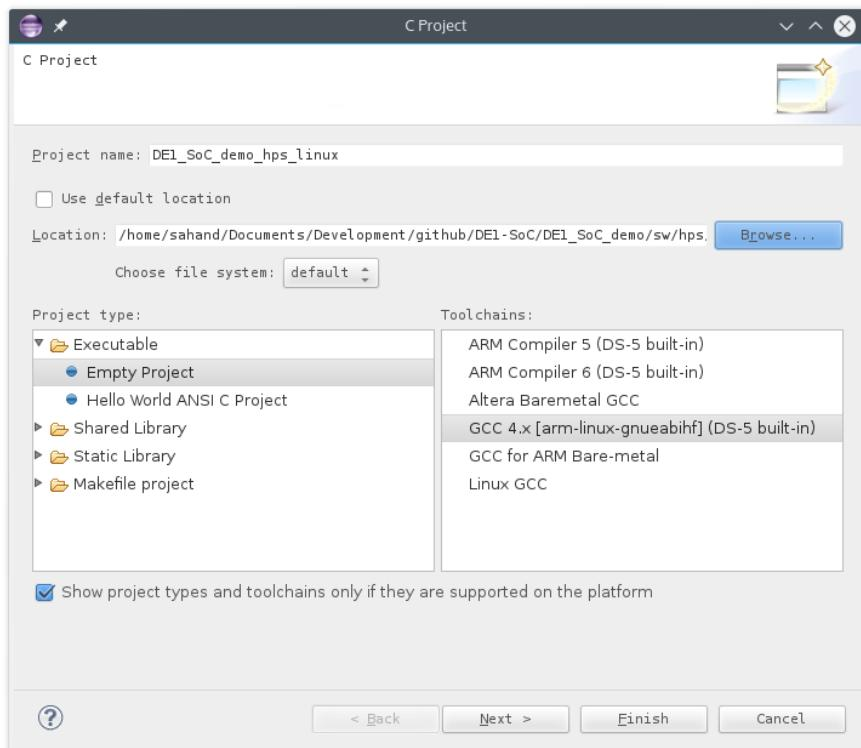

Figure 13-11. New C Project Dialog
- You should have something similar to Figure 13-11. Then, press the “Finish” button to create the project.